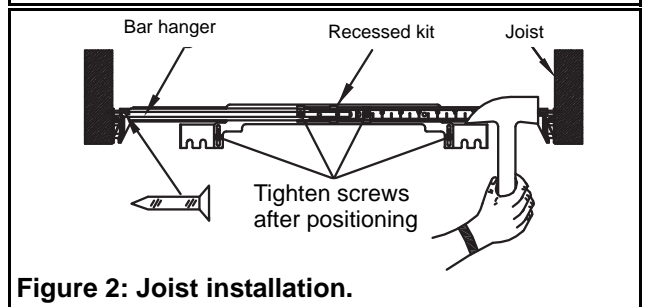

Figure 2: Joist installation.
1. Depending on your installation, install the housing/bar hanger assembly as shown in figures 2 or 3.